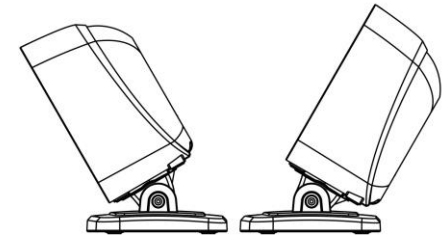

Figure 2-4
4. As shown in Figure 2-4, adjust the image platform forward/backward for a desired position.